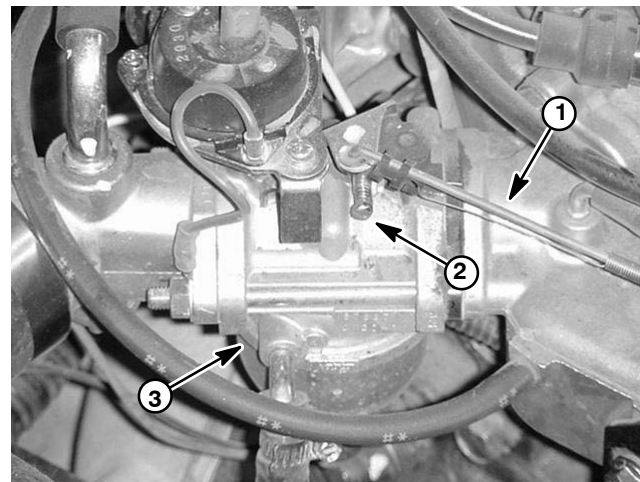

Figure 6
8. Using a tachometer, check low idle speed. Low idle speed should be 1100 ± 50 RPM. If low idle is incorrect, repeat idle stop screw adjustment (step 5). If low idle is still incorrect, adjust the idle speed screw on the carburetor to obtain 1100 ± 50 RPM (Fig. 6).